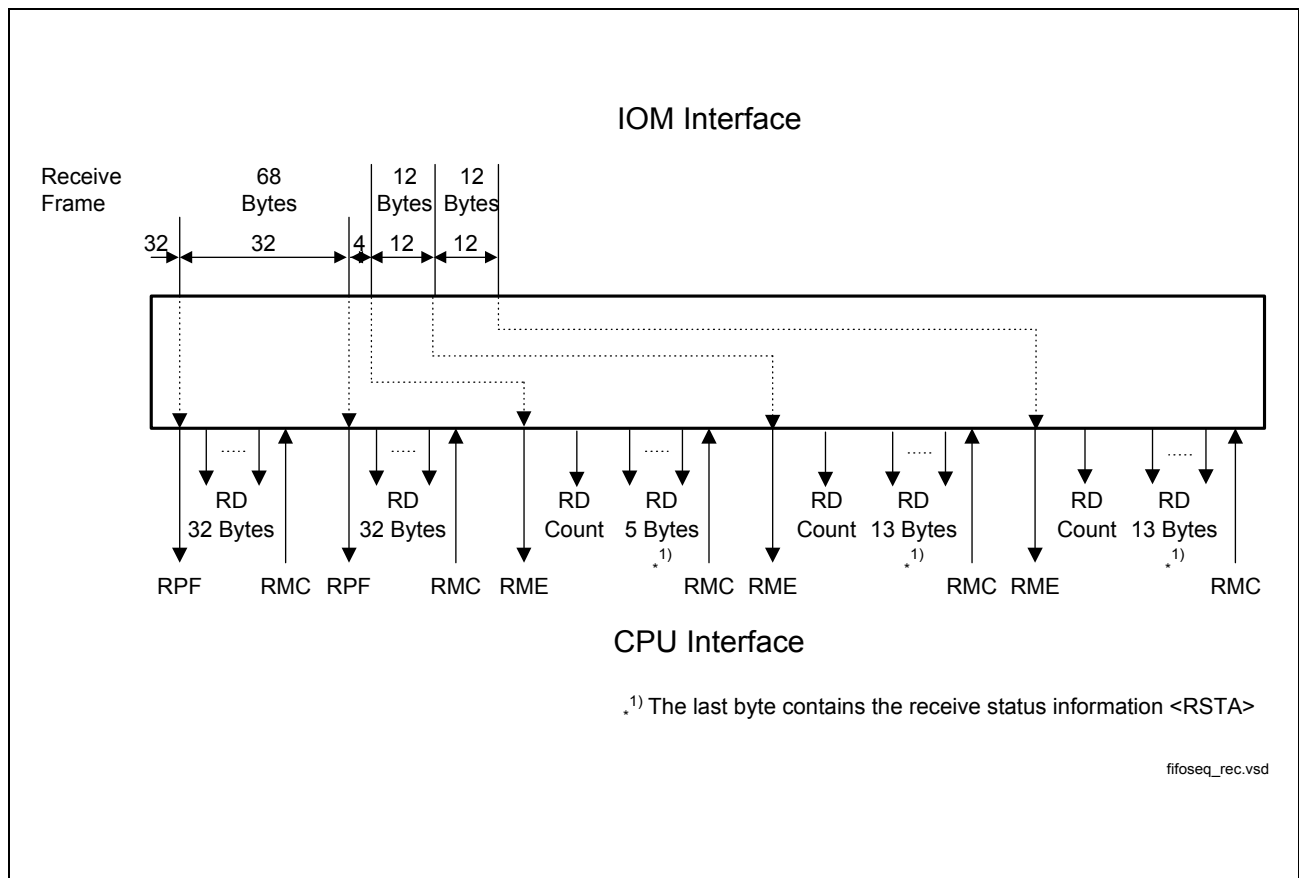

**Figure 74 Reception Sequence Example**
**Figure 74** gives an example of an interrupt controlled reception sequence, supposed that a long frame (68 byte) followed by two short frames (12 byte each) are received. The FIFO threshold (block size) is set to 32 byte in this example: